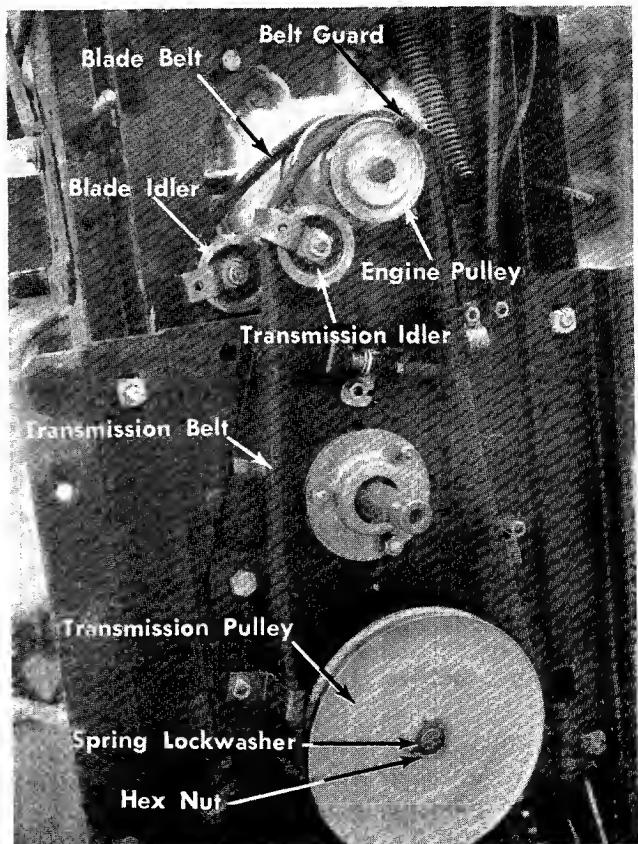

FIGURE 19. BELT SYSTEM
Step 4. Remove the transmission belt from the engine pulley. It may be necessary to spring the belt guard out of the way. When installing the new belt be sure to put the belt guard back in the original position. See figure 19.
Step 6. Remove hex nut and spring lockwasher on the transmission pulley and slide the pulley out until the belt can be removed. See figure 19.
Step 4. Remove the transmission belt from the engine pulley. See figure 19.
It may be necessary to spring the belt guard out of the way. When installing the new belt be sure to put the belt guard back in the original position. See figure 19.
#### **CREEPING OR BELT WEAR. See figure 19.**
## **DRIVE PULLEYS. See figure 19.**
## **BELT WEAR—Belt Guards and Clips. See figure 19.**
## **CREEPING. See figure 19.**